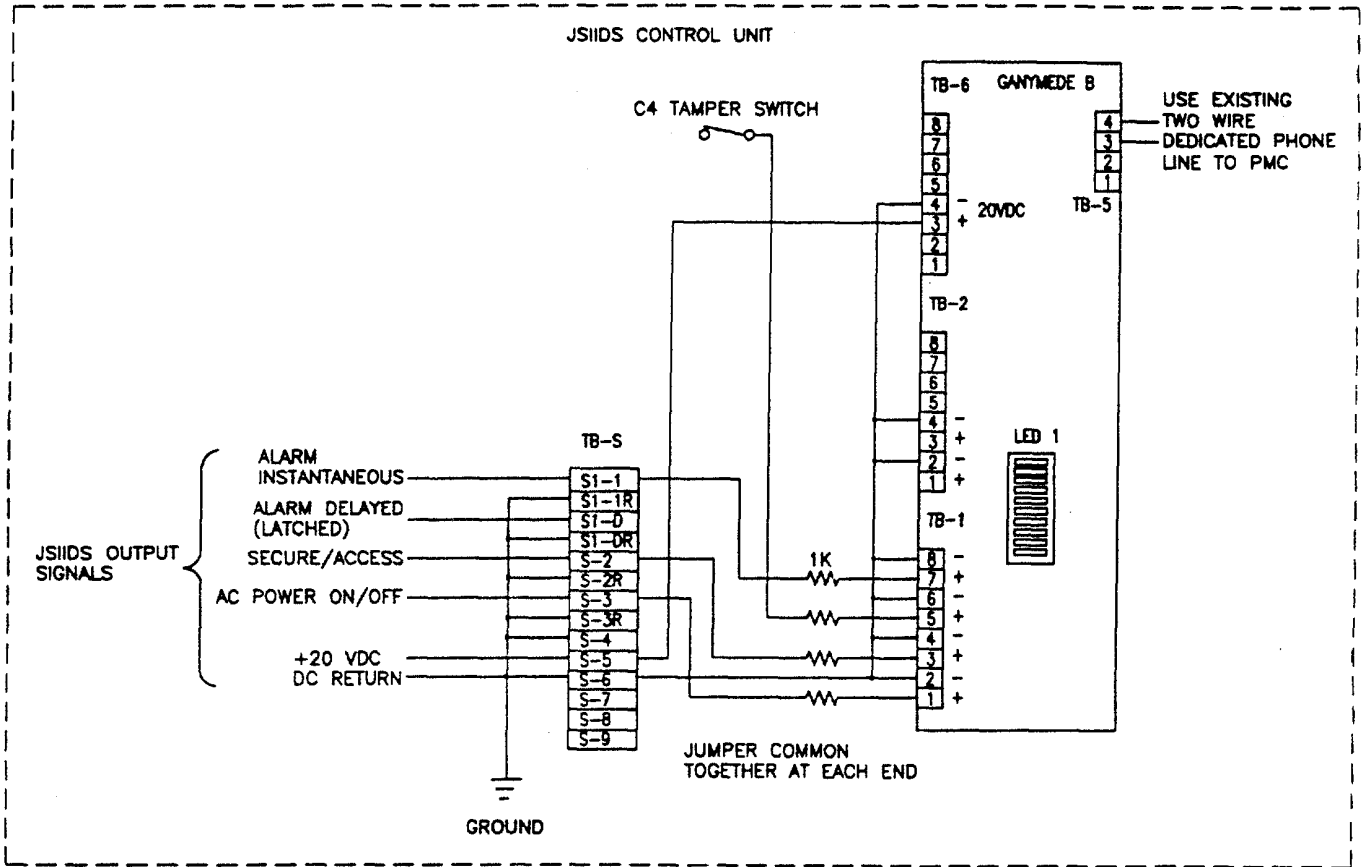

Figure 3-8. J-SIIDS, Ganymede B Interface
4. J-SIIDS GANYMEDE B INTERFACE ASSEMBLY FAILURE (Figure 3-8)